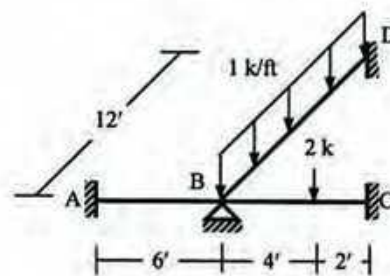

Fig. 4
4. For the grid loaded as shown in *Fig. 4*, use the stiffness method to calculate the rotations at joint B [Given: $EI = 40 \times 10^3 \text{ k-ft}^2$, $GJ = 30 \times 10^3 \text{ k-ft}^2$].
4. For the grid loaded as shown in *Fig. 4*, use the stiffness method to calculate the rotations at joint B [Given: $EI = 40 \times 10^3$ k-ft², $GJ = 30 \times 10^3$ k-ft²].